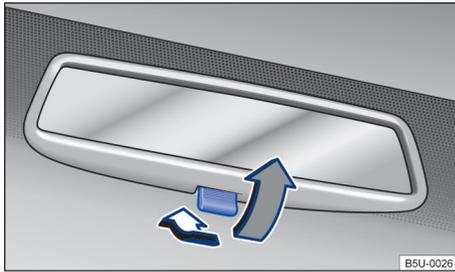

Fig. 69 On the windscreen: manual anti-dazzle interior mirror.
- Night position: pull the lever → Fig. 69 (grey arrow) to avoid glare from the headlights of vehicles travelling behind.